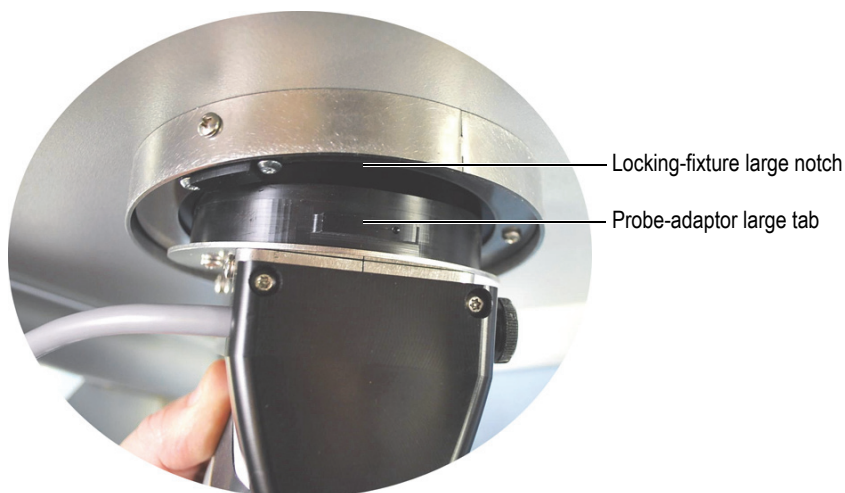

Figure F-13 Alignment with locking fixture
3. Align the large tab of the probe adaptor with the large notch of the locking fixture (see Figure F-13 on page 173).